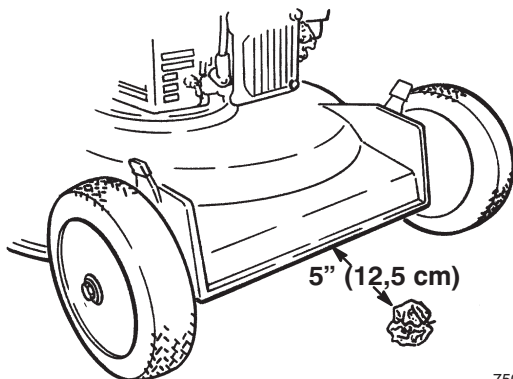

Figure 10
5. Take a half sheet of newspaper and crumple it into a ball small enough to go under the deck (about three inches [76 mm] in diameter) (Fig. 10).
6. Place the ball of newspaper five inches in front of the lawn mower (Fig. 10).
- A. Place the ball of newspaper five inches in front of the lawn mower (Fig. 10).